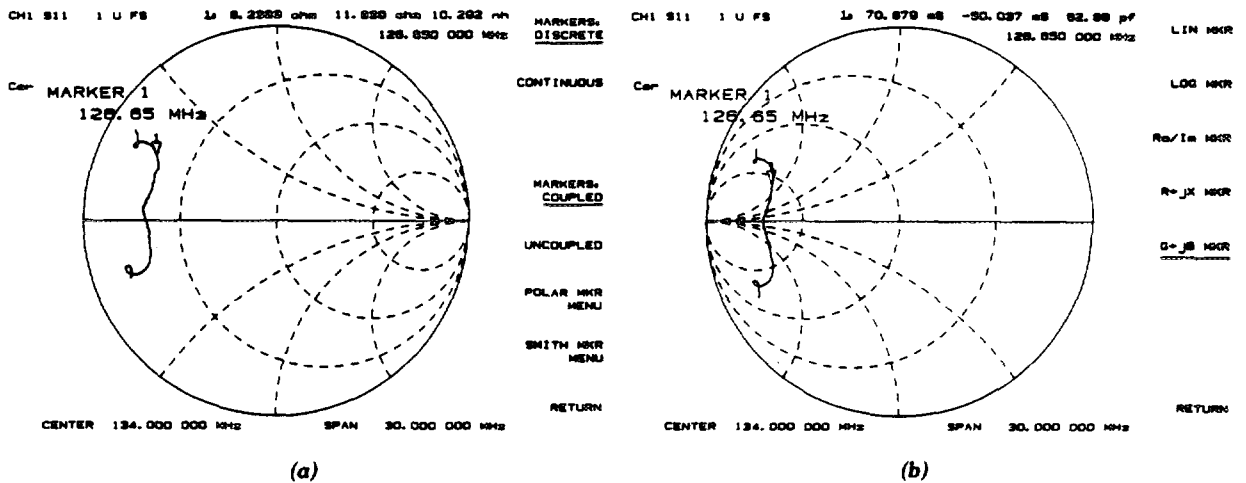

Figure 4-13. Standard and Inverse Smith Chart Formats
**[SMITH CHART]** (SMIC) displays a Smith chart format (Figure 4-13). This is used in reflection measurements to provide a readout of the data in terms of impedance. The intersecting dotted lines on the Smith chart represent constant resistance and constant reactance values, normalized to the characteristic impedance,  $Z_0$ , of the system. Reactance values in the upper half of the Smith chart circle are positive (inductive) reactance, and in the lower half of the circle are negative (capacitive) reactance. The default marker readout is in units of resistance and reactance ( $R + jX$ ). Additional marker types are available in the Smith marker menu (refer to Chapter 6).
An inverted Smith chart format for admittance measurements (Figure 4-13) is also available. Access this by selecting **[SMITH CHART]** in the format menu, and pressing **[MKR] [MARKER MODE MENU] [SMITH MKR MENU] [G+jB MKR]**. The Smith chart is reversed and marker values are read out in units of conductance and susceptance ( $G+jB$ ).